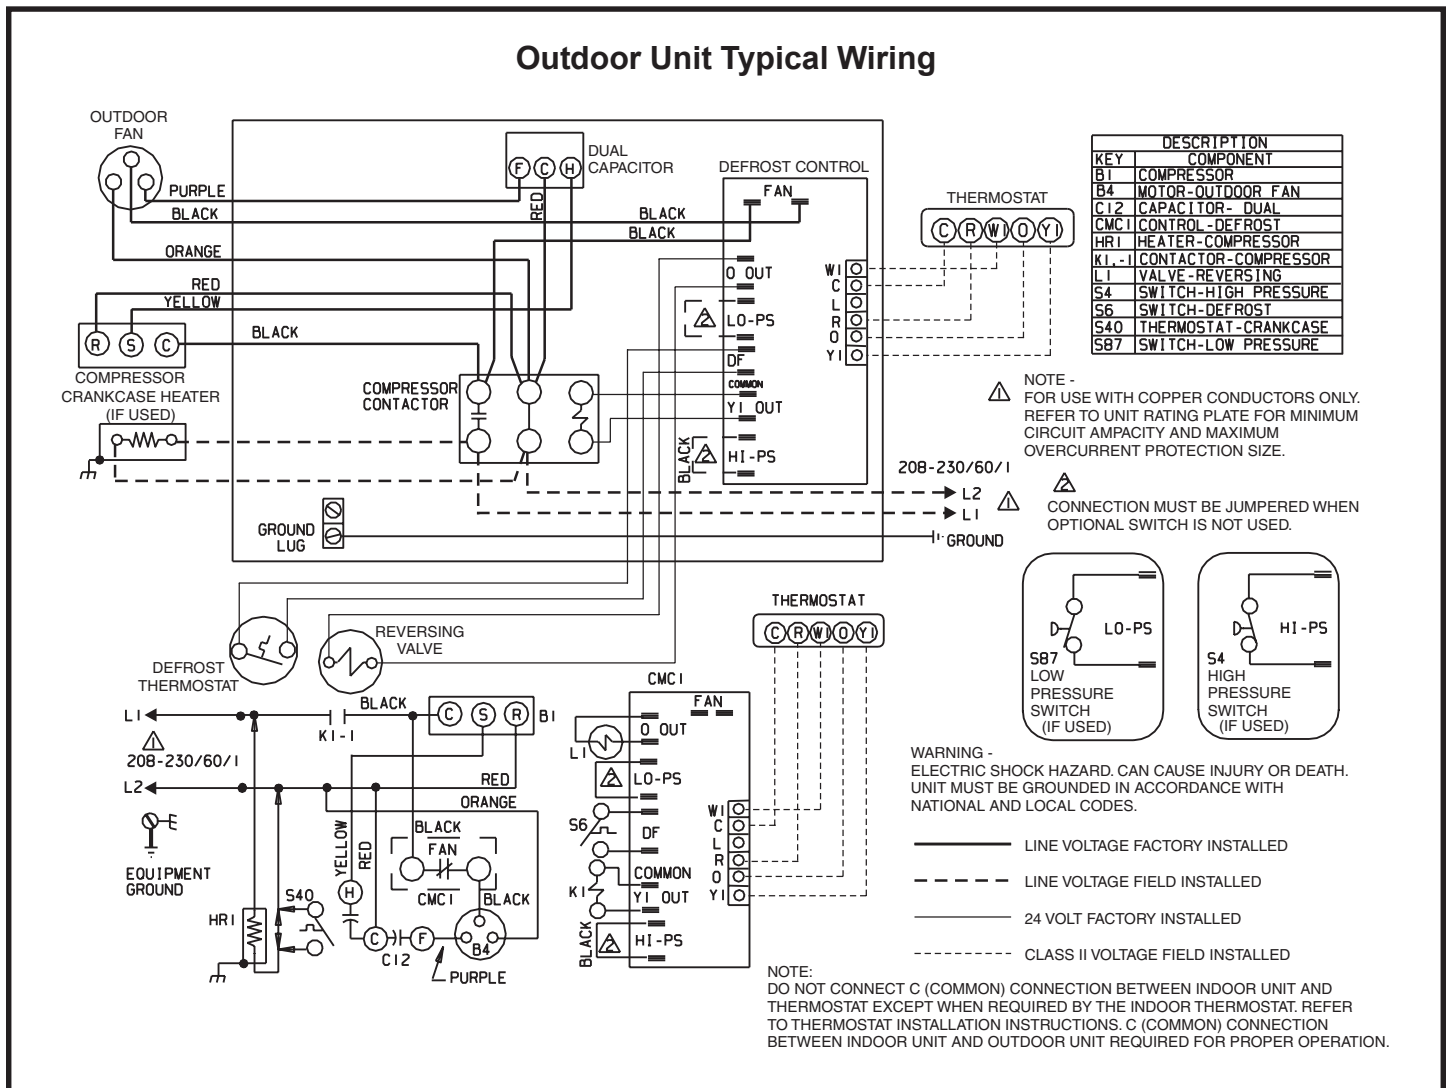

Figure 5
4. Install low voltage wiring from outdoor to indoor unit and from thermostat to indoor unit (see Figure 5).